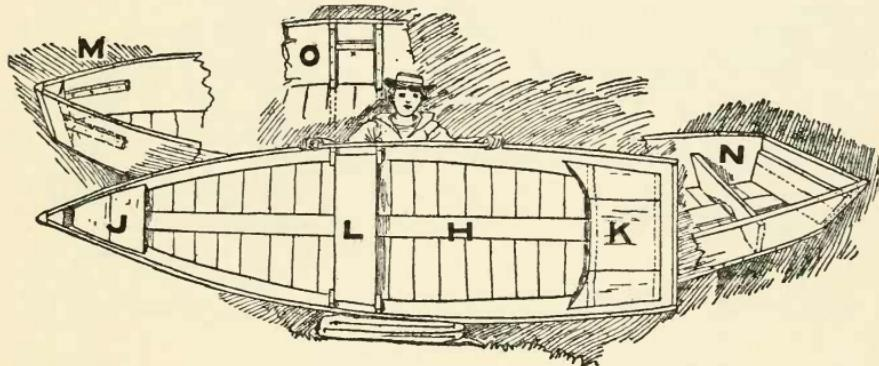

Fig. 197.—Details of bow, stern, seats, and finished boat.
consist of a triangular one at the bow (J), the oarsman's seat (L), and the stern seat (K, Fig. 197). The bow seat is made of 1-inch boards nailed to two cleats shown at M (Fig. 197). N shows the bench for the stern seat and O explains the arrangement of the oarsman's seat a little forward amidship. As may be seen, it rests upon the cleats α (diagram O, Fig. 197), which are fitted between two upright cleats on each side of the boat; this makes a seat which will not slip out of place, and the cleats serve to strengthen the sides of the otherwise ribless boat. Make the cleats of 1 by 2 inch lumber and let the seat be about 12 inches wide. The stern seat may be wider, $1\frac{1}{2}$ feet at K and 4 or 5 inches
more at the long sides of the two boards each side of K (Fig. 197). Of course, it is not necessary to fit a board in against the stern-piece, for a cleat will answer the purpose, but a good, heavy stern-piece is often desirable and the board shown in diagram N (Fig.
is an advisable addition to the boat, but may also be omitted without serious results (H, Fig. 197).